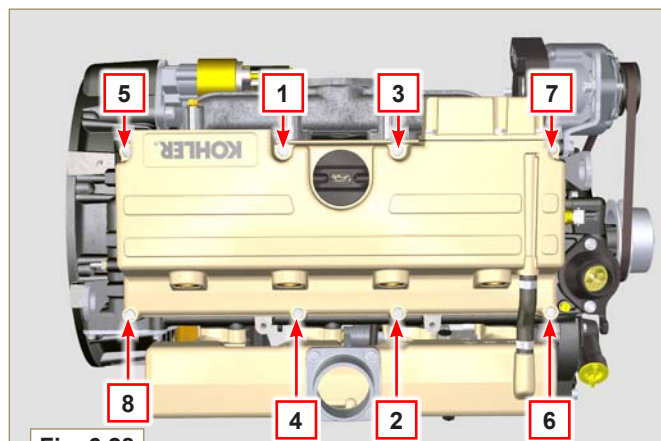

Fig. 6.28
- 3 - Attach the rocker arm cover **C** on the head **AL** with the screw **L** adhering to the tightening sequence shown in Fig. 6.28 (KDI 2504 TM) (tightening torque to 10 Nm).